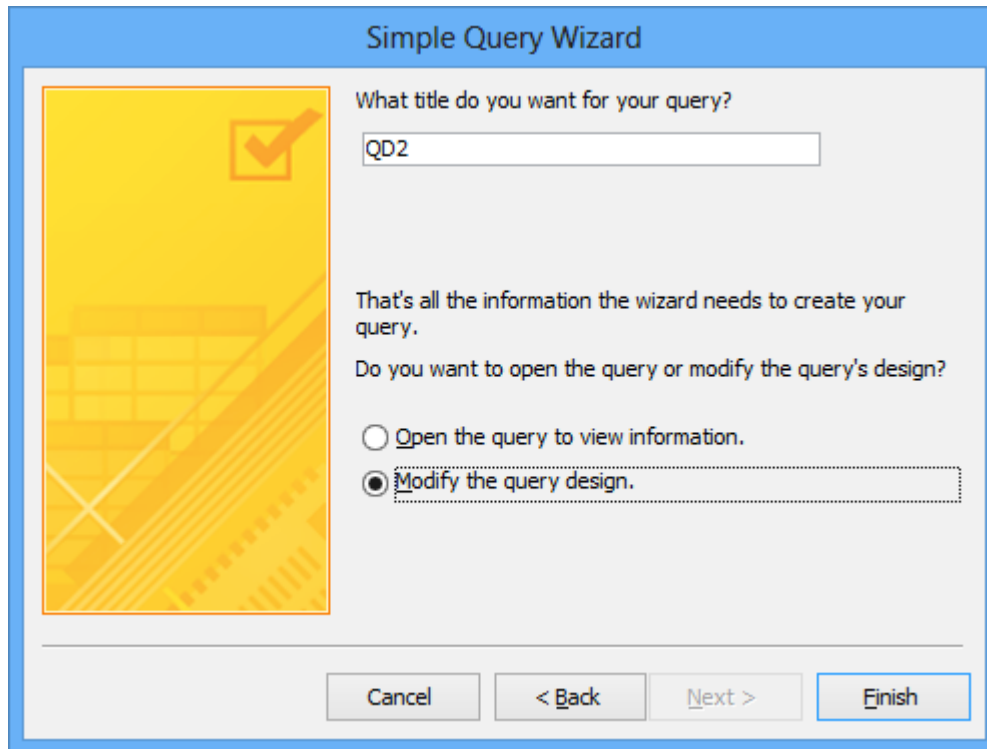
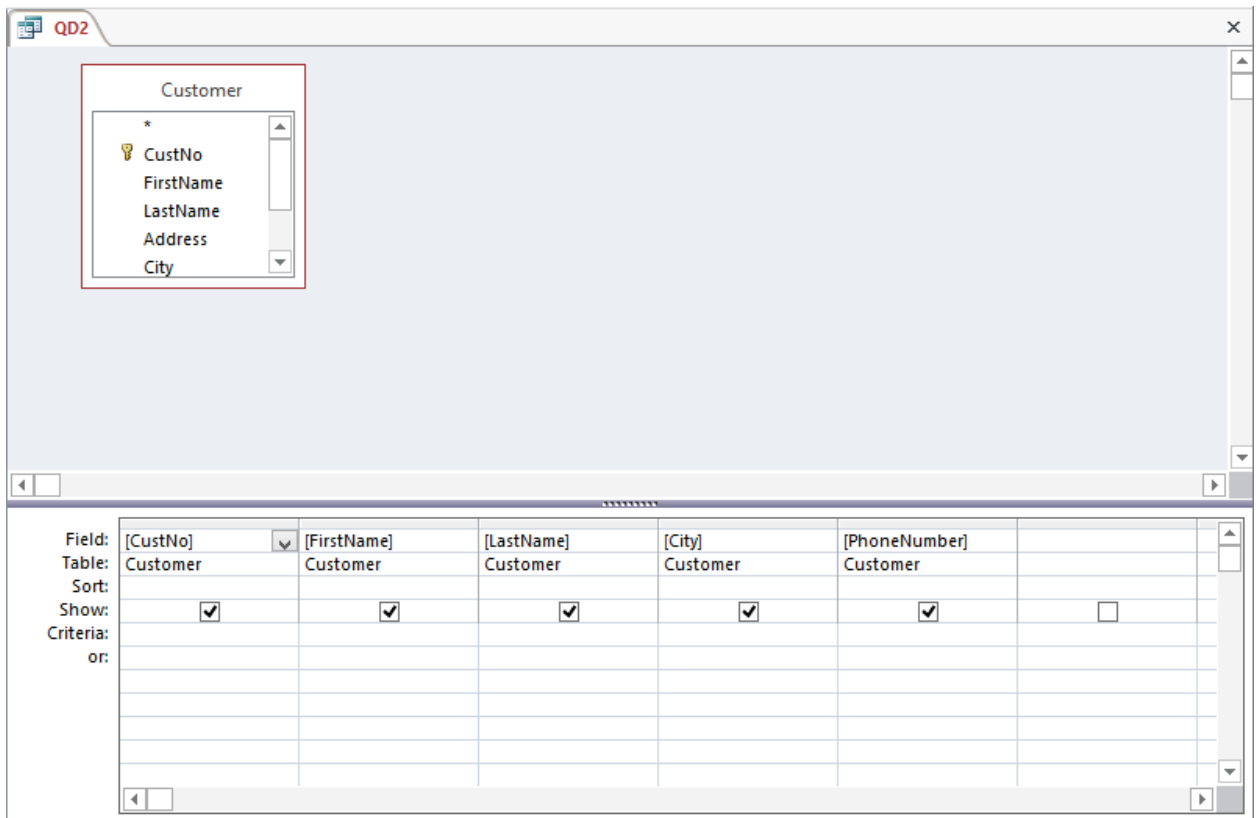

Figure 13: Final Wizard Window
Figure 14: Query Design Window of “QD2”
8. Finish the Query Wizard: In the final wizard window (Figure 13), name the query “QD2”. Below you are asked if you want to open the query or modify its design. Choose the second option, “Modify the query design.”, and click **Finish**. The design view of “QD2” (Figure 14) appears ready for you to modify.
6. Open the Query Design Window: Right-click the query in the navigation pane. The design view of “QD3” appears on the screen containing the copied “QD2” query ready for you to change (refer back to Figure 14).